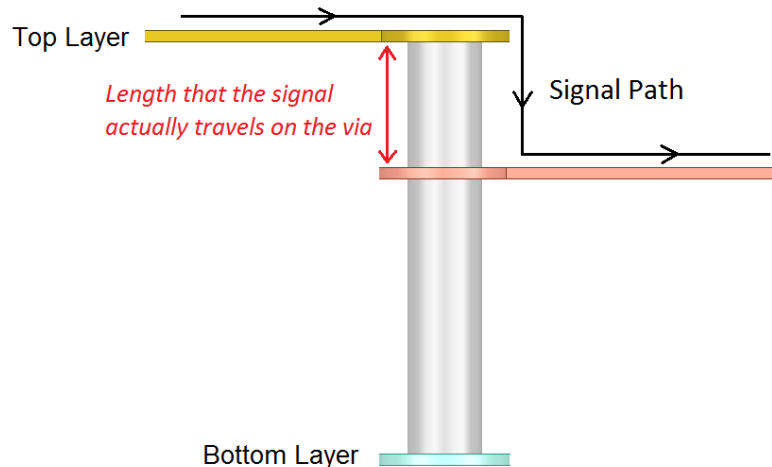

Figure 2. Length that the signal actually travels on the Via
4. At a speed of 2400 MT/s, signal vias can be a significant source of crosstalk. If not properly designed, it can introduce crosstalk larger than that from the trace. To minimize via crosstalk, make sure that the number of vias on each point-to-point signal is no more than 2. Place at least one ground stitching via within 50 mils of signal via when switching reference planes to provide continuous return path and reduce crosstalk. If it is not possible to place enough ground stitching vias due to space limitation, try to make the length that the signal actually travels on the via as short as possible, as illustrated in Figure 2.